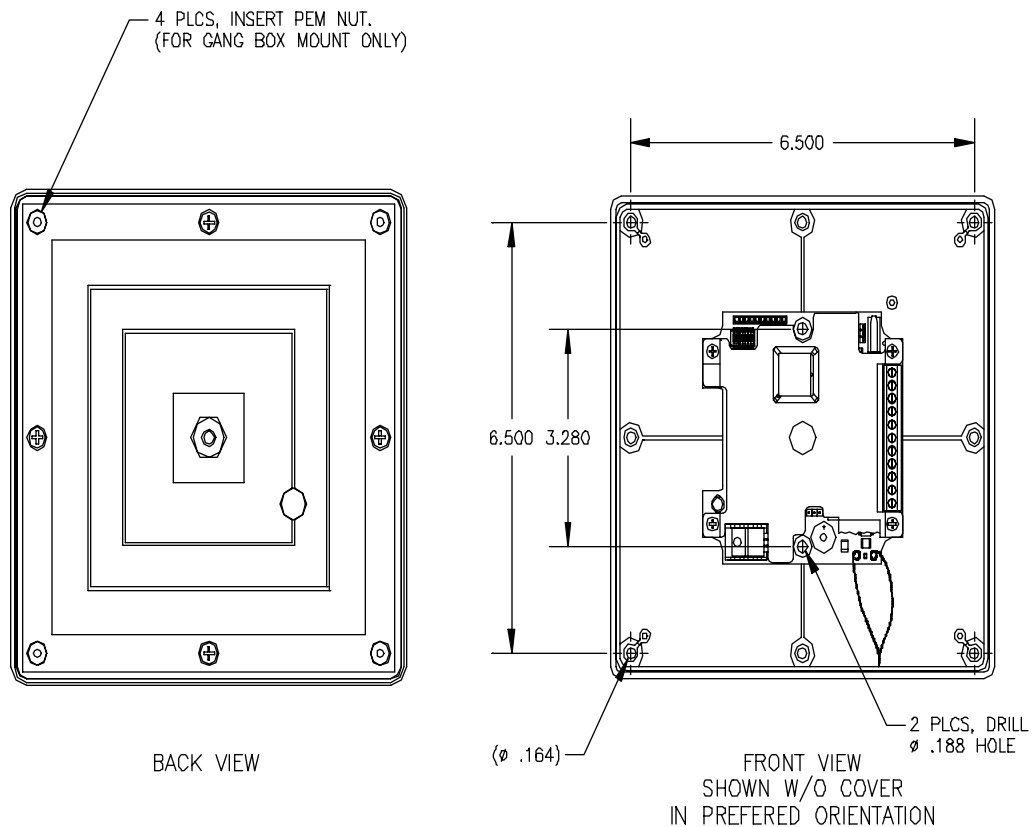

FIGURE 5
- Drill a $\varnothing .188$ hole in the 2 locations shown in figure 5.